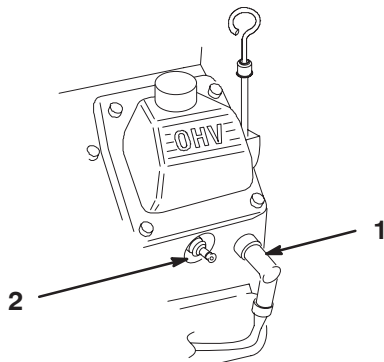

Figure 42
3. Pull the wire(s) off the spark plug(s) (Fig. 42). Now clean around the spark plug(s) to prevent dirt from falling into the engine and potentially causing damage.
3. Push the wire(s) onto the spark plug(s) (Fig. 42).